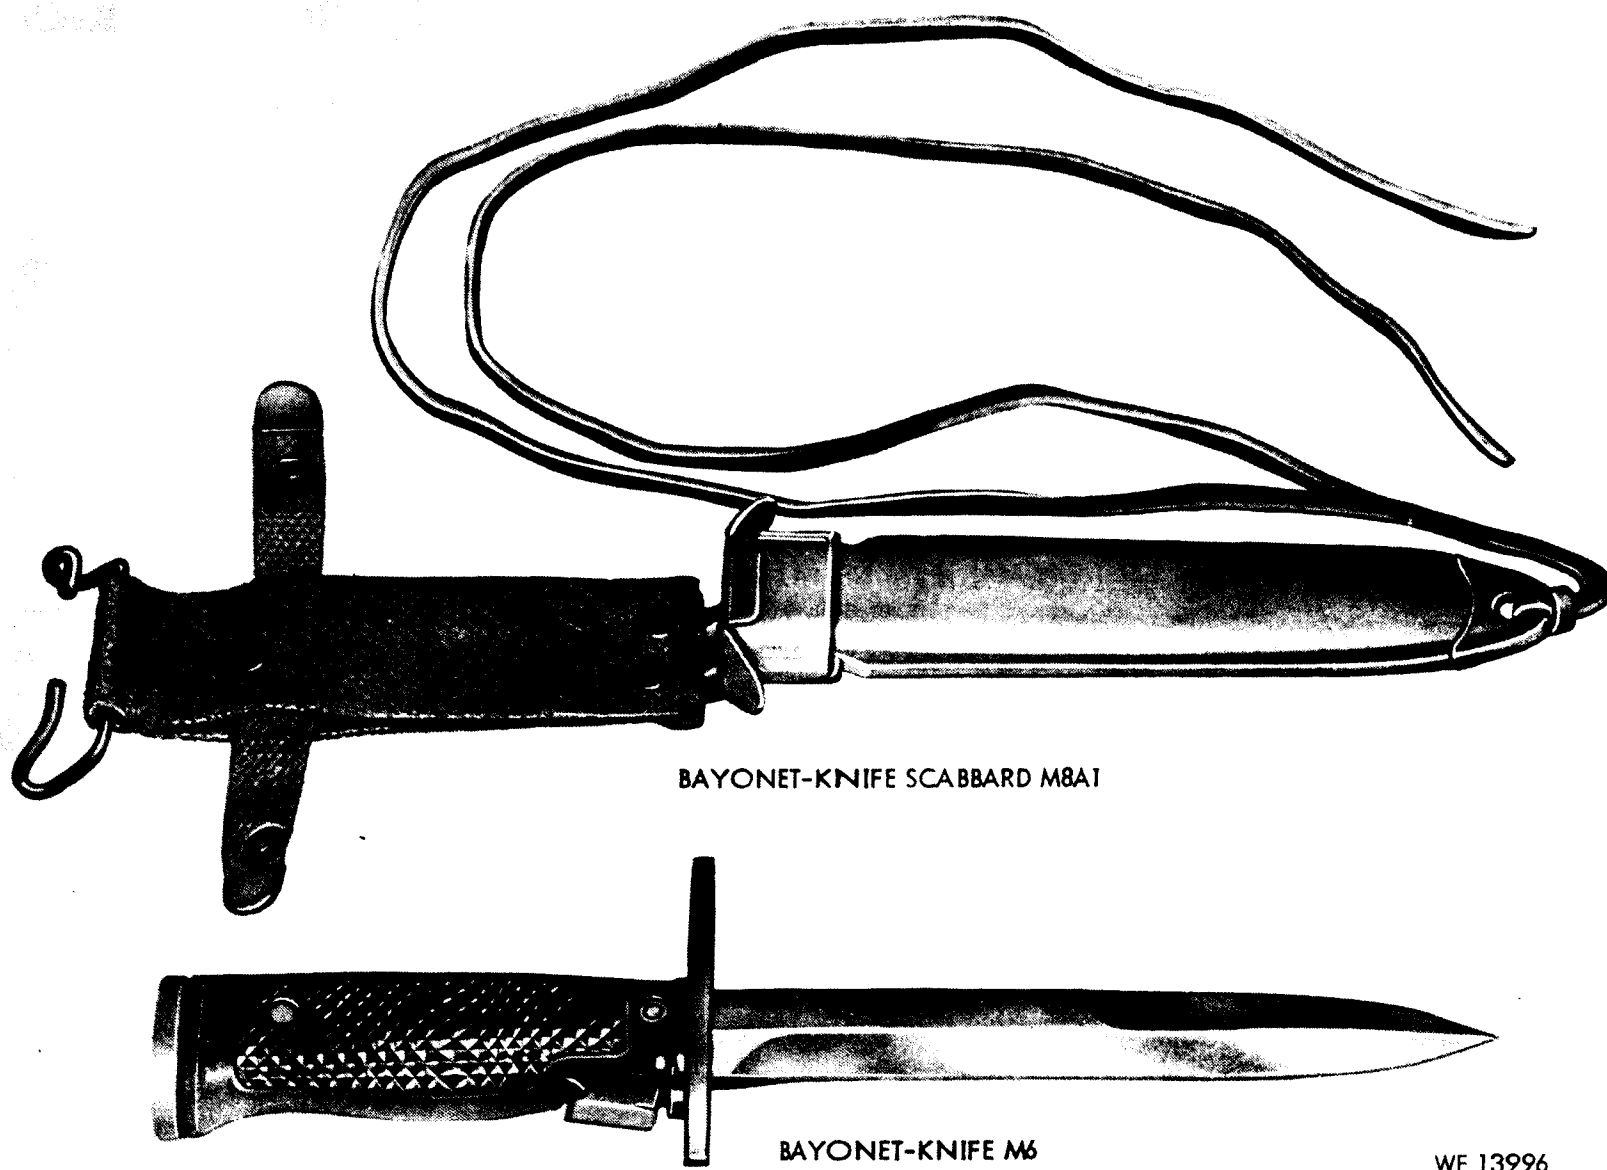

Figure 1-11. Bayonet-Knife Scabbard M8A1 and Bayonet-Knife M6.
f. Bayonet-Knife M6 and Bayonet-Knife Scabbard M8A1. See figure 1-11.